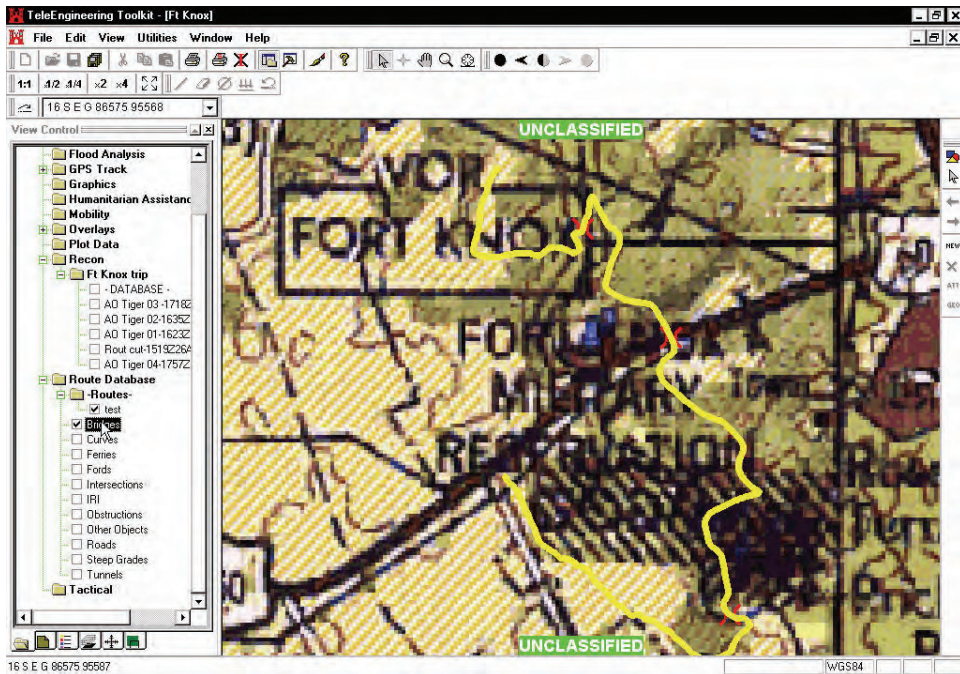

Figure 51. Selecting bridges
12. Select the category verbally described in the audio recording from the “Recon Database.” For example, if the audio describes a bridge, double click (check) the box next to “Bridges.” All bridges saved in the database in the area of interest will be displayed (Figure 51).